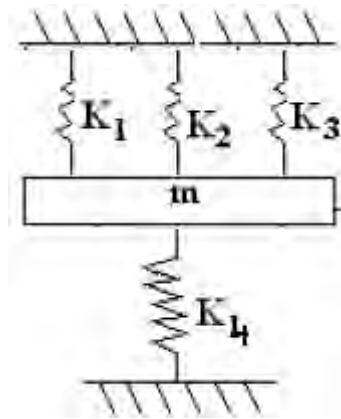

Figure 6:
6. Find the frequency of the spring shown in figure 6: [16]